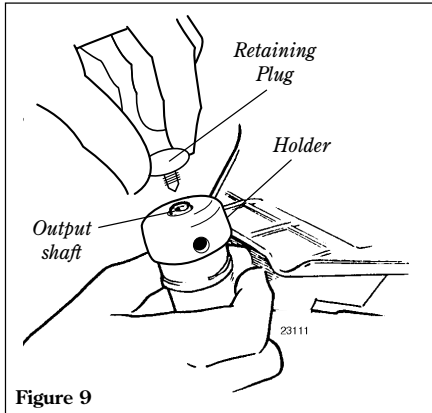

Figure 9
2. Remove and discard the black plastic protective cap from the output shaft. See Figure 9.